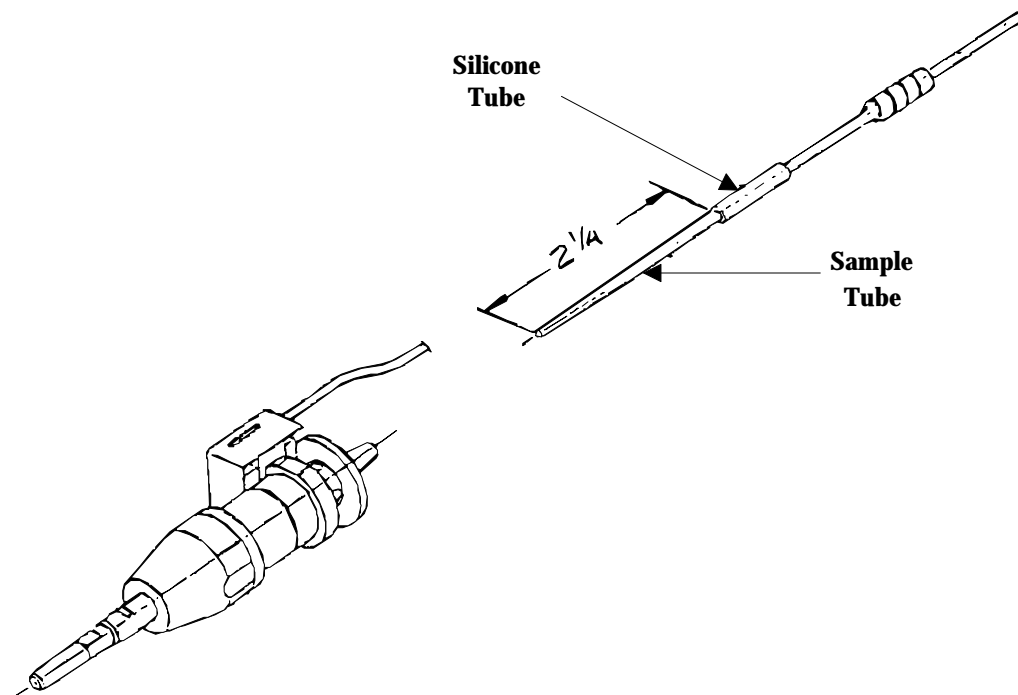

Figure 9
8. (refer to **figure 9**) There should be approximately 2 1/4 inch from the end of the sample tubing to the end of the silicone tube. The silicone tube may be moved on the sample tubing to get this dimension.